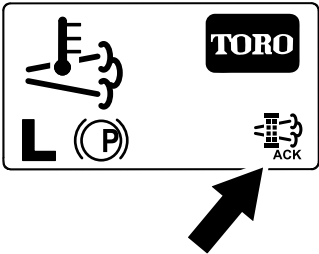

Figure 50
8. The InfoCenter displays the home screen and the regeneration acknowledge icon (Figure 50) appears in the lower right corner of the screen as the regeneration processes.